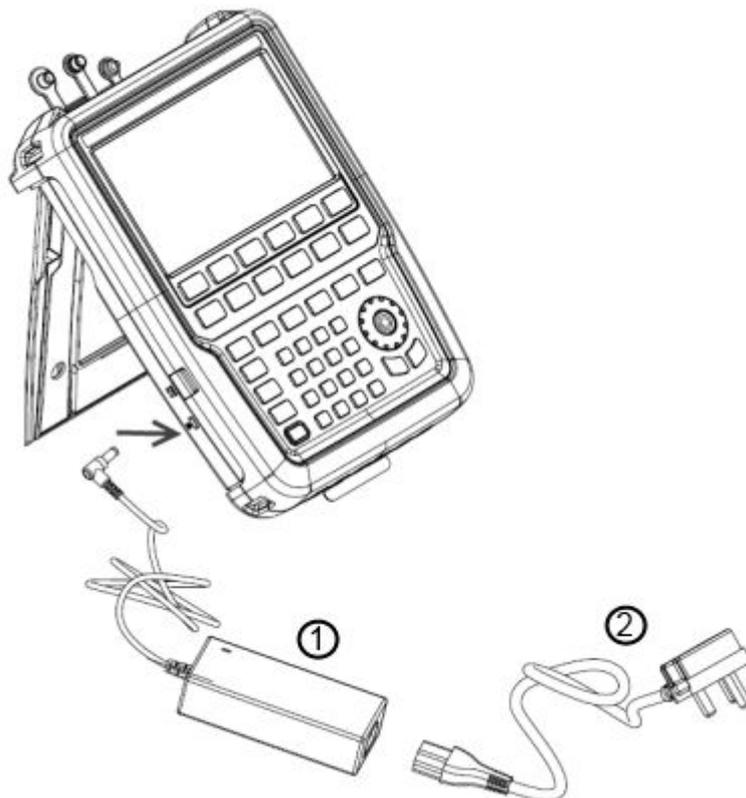

Figure 3-1: AC adapter
Connect the AC adapter (R&S HA-Z301, order number 1321.1386.00) to the DC port on the left side of the R&S Spectrum Rider (item 1 of Figure 3-1). Make sure to fully insert the plug into the port.
Depending on the system you need, firmly connect the appropriate power cable included in the delivery to the AC adapter (item 2 of Figure 3-1).